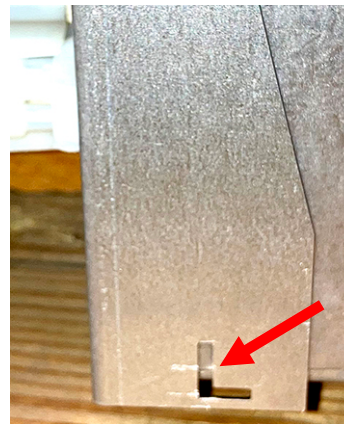
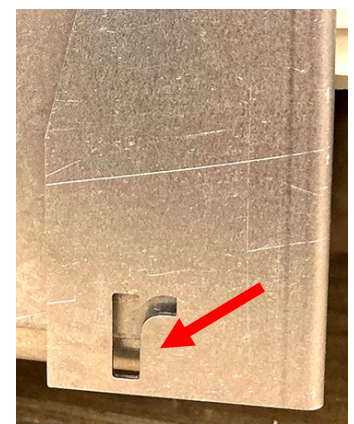

Figure 3
Figure 4
5. There are location specific left and right shields. The left shield is denoted by an upper case "L" (see Figure 3). The right shield is denoted by a lower case "r" see Figure 4).